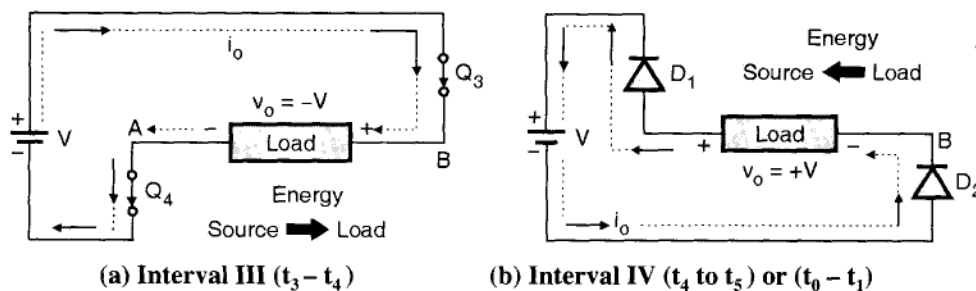

Fig. 3.14 : Equivalent circuits
- The current increases exponentially in the negative direction. And the load again stores energy in this mode of operation. This is as shown in Fig. 3.14 (a).
- This will forward bias the diodes D_1 and D_2 . The load stored energy is returned back to the input dc supply. The load voltage $v_o = +V$ but the load current remains negative and decreases exponentially towards 0. This is as shown in Fig. 3.14 (b).